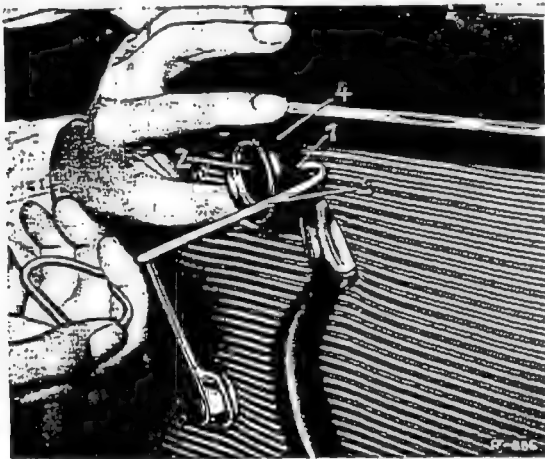

Fig. 72-5/1
1. Insert a wire hook (3) in the bore of the control knob (4) and press off the cap (2) of the control knob (4) toward the front (Fig. 72-5/1).